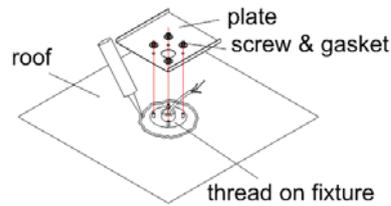

Fig. 2
2. Put silicon sealant around the hole, let the thread on fixture through out the roof, and use the plate, gasket and 4 screws to secure the fixture. See fig. 2.